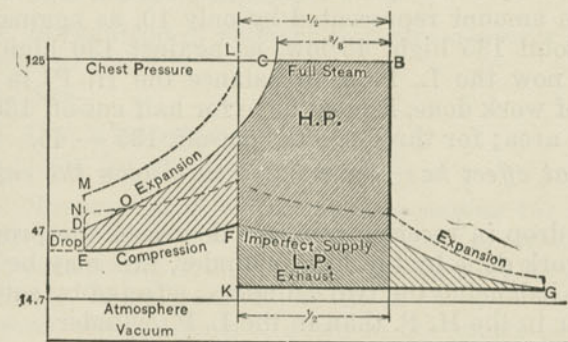

Fig. 321. Theoretical Expansion Diagram.
*Q. Suppose instead of cutting off at half stroke in the H. P. cylinder of the receiver engine, as in Fig. 321, reproduced here in dotted lines, steam is cut off at three-eighths stroke, as shown by full lines in Fig. 321; the low-pressure cut-off remaining unchanged; what will be the effect?*